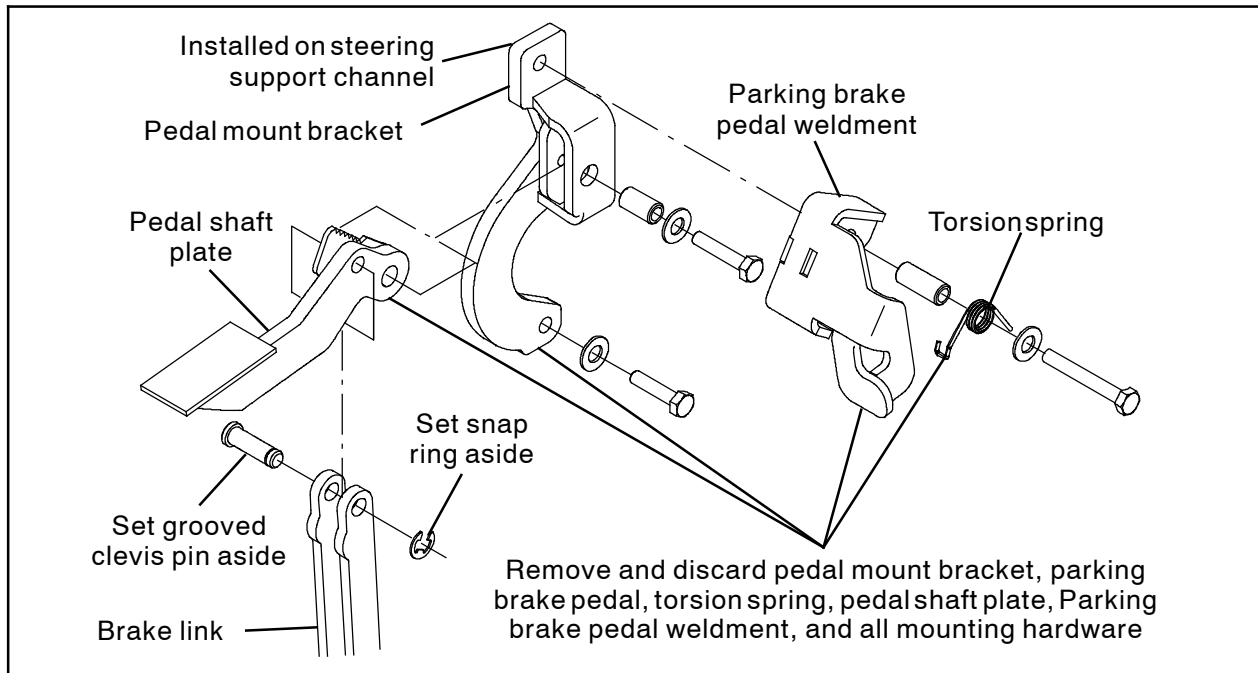

FIG. 2
1. Remove the grooved clevis pin and snap ring securing the pedal shaft plate to the brake link. Set the grooved clevis pin and snap ring aside. (Fig. 2)
2. Remove the pedal shaft plate, pedal mount bracket, parking brake pedal weldment, and torsion spring from steering channel weldment on the frame of the machine and the steering support channel. Discard all components and hardware removed in this step. (Fig. 2)